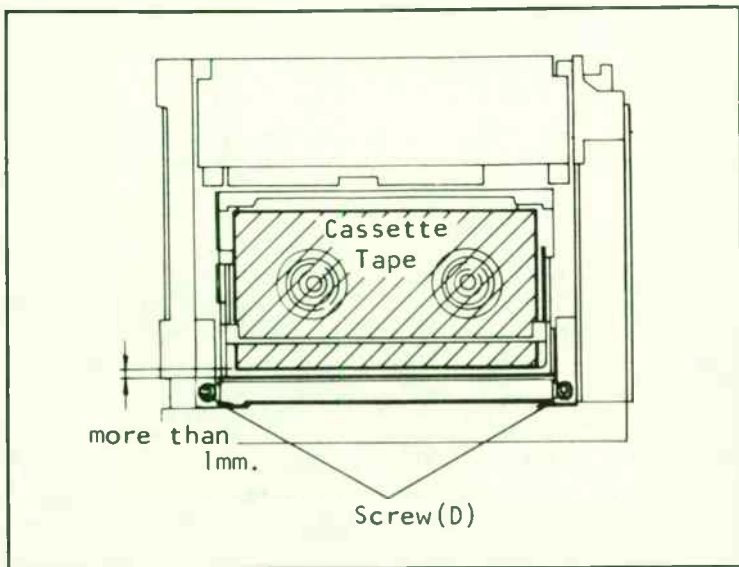

Fig. 9-8. Cassette guide removal (courtesy of General Electric).
Remove 2 screws (D) and the cassette guide. Note: when reinstalling, insert the cassette tape and ensure that the clearance between tape and projections on the cassette guide is more than 1 mm. Then tighten 2 screws (D) as shown in (Fig. 9-8).